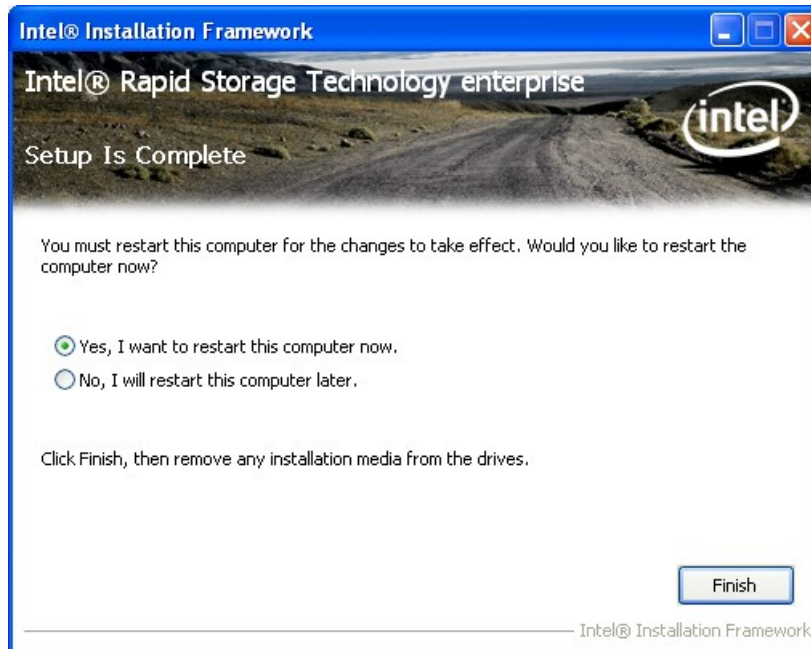

Figure 6-28: SATA RAID Driver Installation Finish Screen
Step 14: The **Finish** screen in Figure 6-28 appears.